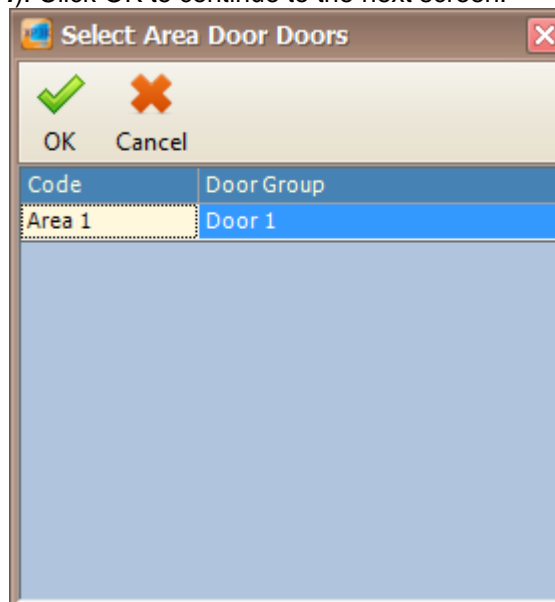

Figure 104 - Select Area Door
3. Click on  icon to choose the Main Door Group. Select area door screen will be shown and allow you to choose the area door that you want (Refer **Figure 104**). Click OK to continue to the next screen.